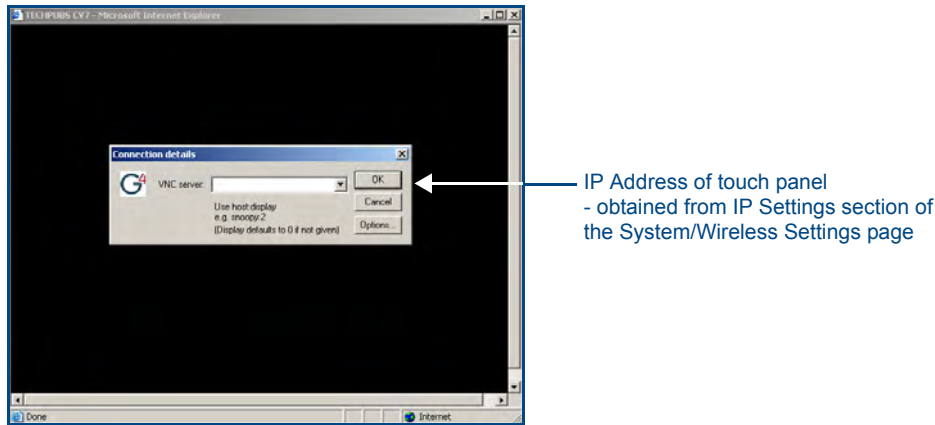

FIG. 46 Connection Details dialog
8. In some cases, you might get a *Connection Details* dialog (FIG. 46) requesting a VNC Server IP Address. This is the IP Address not the IP of the Master but of the target touch panel. Depending on which method of communication you are using, it can be found in either the: